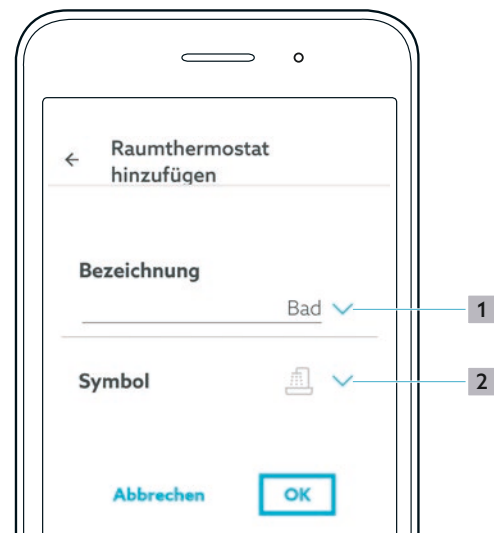

Fig. 13: ClimaCon F app - Start screen
-  By tapping the arrow (position **1** in Fig. 13 on page 16), you have the possibility to make the appropriate selection from a given list. Alternatively, you can enter a desired text manually.
- 6 Select a suitable symbol from the list (position 2 in Fig. 13 on page 16).